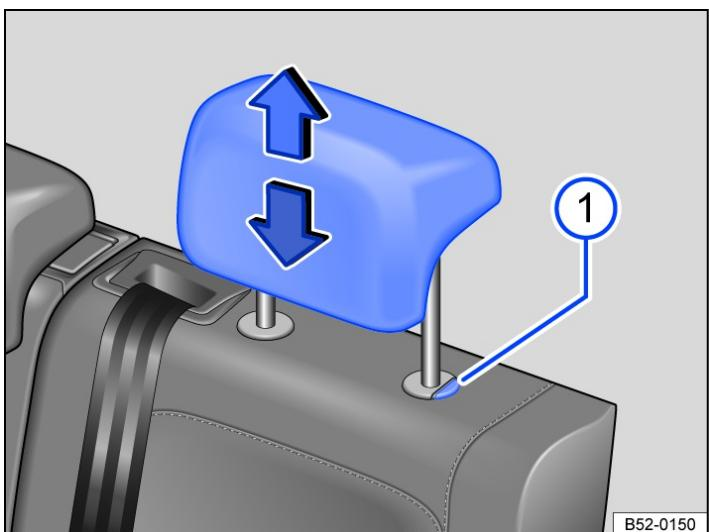

Fig. 2 Rear head restraint: adjusting.
- While pressing the → Fig. 1 1 or → Fig. 2 button if necessary, push the head restraint up or down in the direction of the arrows.